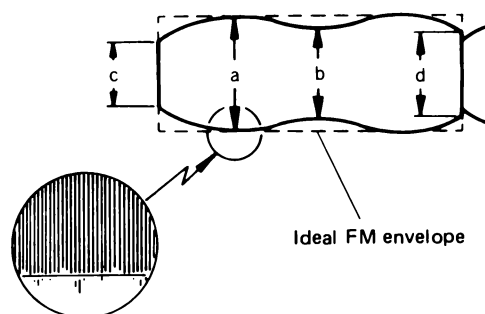

Fig. 2-25 FM waveform (maximum output)
- 1) Turn the TRACKING knob to obtain the maximum FM output. Refer to Fig. 2-25. Observe the FM waveform, read the maximum level (a) and the minimum levels (b), (c) and (d). Confirm that: